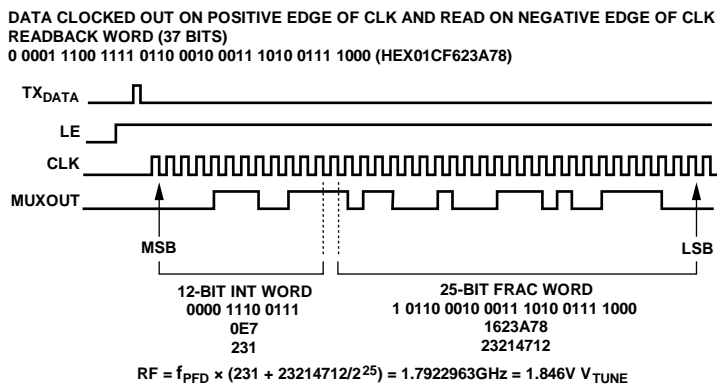

Figure 41. Reading Back Single Bits to Determine the Output Frequency at the Moment of Interrupt
The mechanism of how single bits are read back is shown in Figure 41.
- Frequency readback (as described at the beginning of the Interrupt Modes and Frequency Readback section and Figure 41)